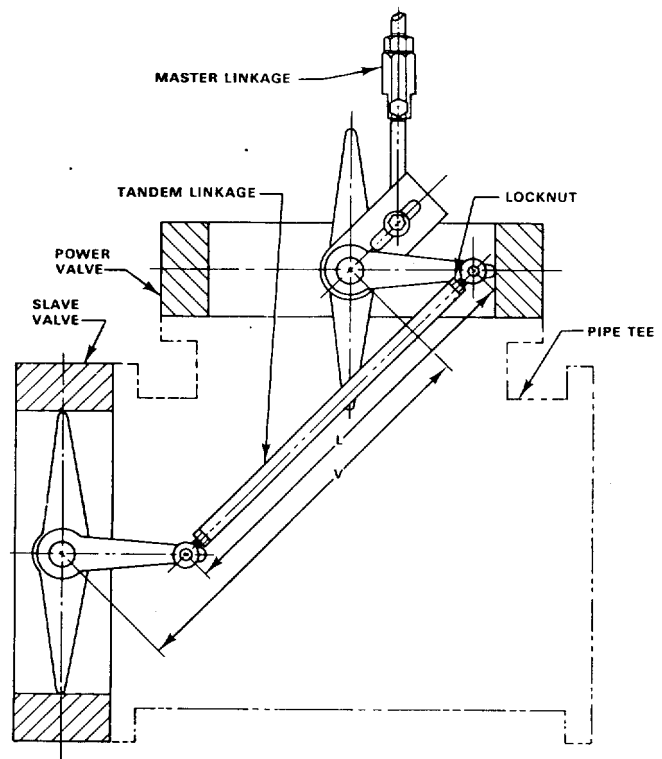

Figure 3. Tandem Linkage Adjustment for Three-Way Valve Assemblies
If the valve is used as part of a three-way valve assembly, adjustment of the tandem linkage (see figure 3) may be necessary to ensure proper rotation of the slave valve disc.
Measure the distance between the valve shaft centers (dimension V in figure 3). The distance between the tandem linkage pivot centers (L) must be the same as dimension V. If necessary, loosen tandem linkage locknuts and rotate linkage barrel to alter dimension L so that it is the same as dimension V.